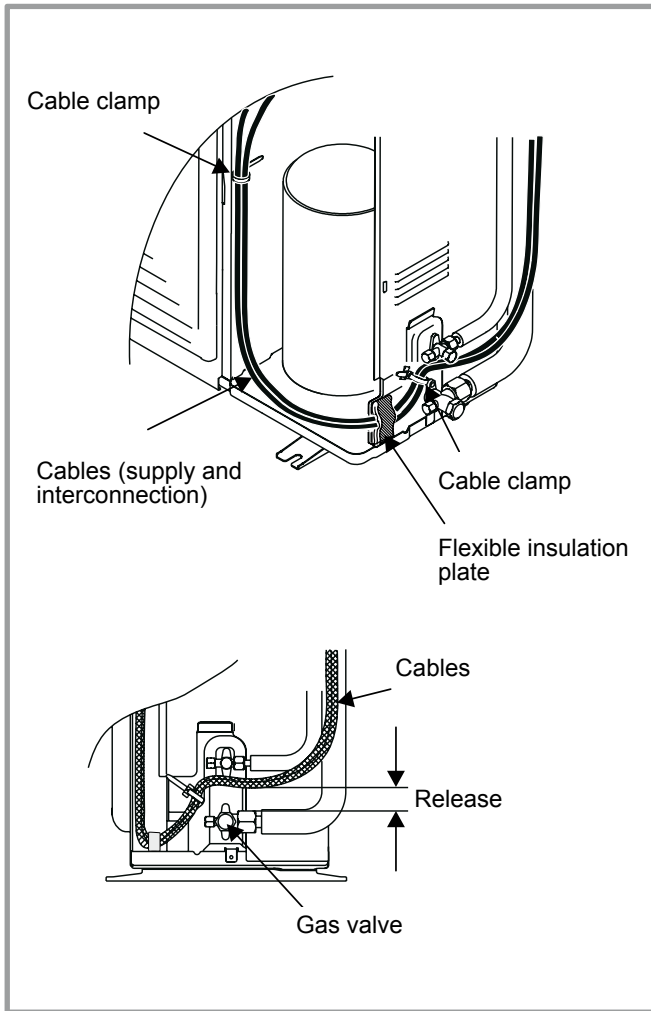

figure 28 - Finalisation of connection to outdoor unit
- Make the connections in accordance with the diagram(s) (figure 28).